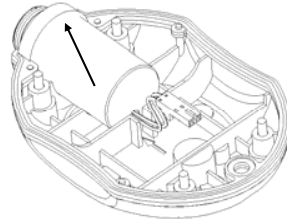

FIG 4
4. Remove the oxygen sensor, FIG 4: